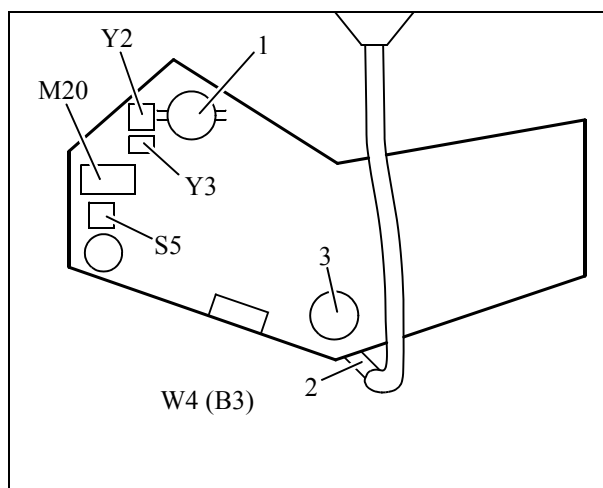

Fig. 2
- Connect the funnel for filling the water tank (2/Fig. 2).
- Fill the water tank until the water level is between the two marks on the upper sight glass (1/Fig. 2).
- Remove the funnel (open the quick coupling on the water tank) (2/Fig. 2).
The level in the water tank must not drop below the mid range of the lower sight glass (3/Fig.2).
- Connect the funnel to fill the water system (2/Fig. 2).
- Fill the water tank so that the water level is between the marks on the upper sight glass (1/Fig. 2).
- Remove the funnel (release the quick-connector on the water tank) (2/Fig. 2).
The level in the water tank must not drop below the mid range of the lower sight glass (3/Fig. 2).